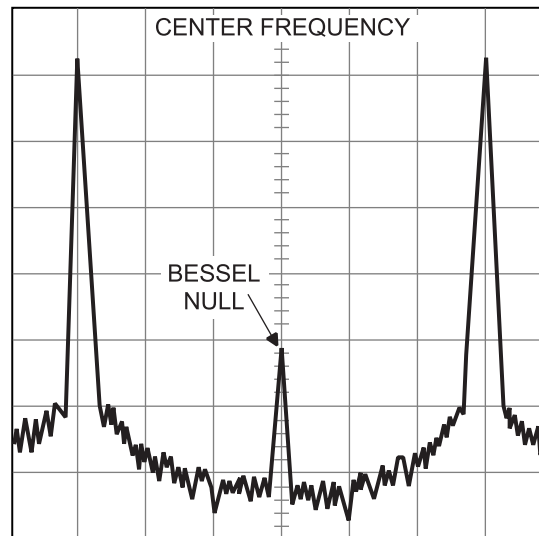

Figure 4-15. Typical Spectrum Analyzer Display of a Bessel Null on an FM Waveform
- e. While observing the first Bessel null (Figure 4-15 on page 4-31) on the Spectrum Analyzer display, adjust the value of the DAC's setting to reduce the carrier level as low as possible.
Figure 4-15 is for example only. During the calibrations the above picture is not viewed because the settings on the spectrum analyzer zoom into the Bessel Null's peak.
- e. While observing the first Bessel null (Figure 4-15) on the Spectrum Analyzer display, adjust the value of the DAC's setting to reduce the carrier level as low as possible.